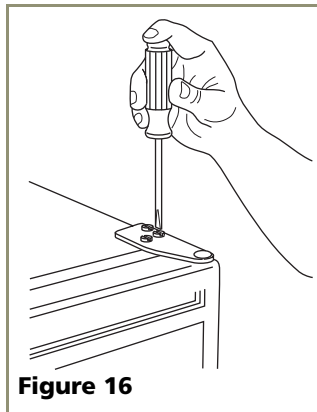

Figure 16
3. Pull door gasket out of groove (top edge of door only). Start in the middle and pull outward, moving toward the edge (see **Figure 16**). This may take some force.